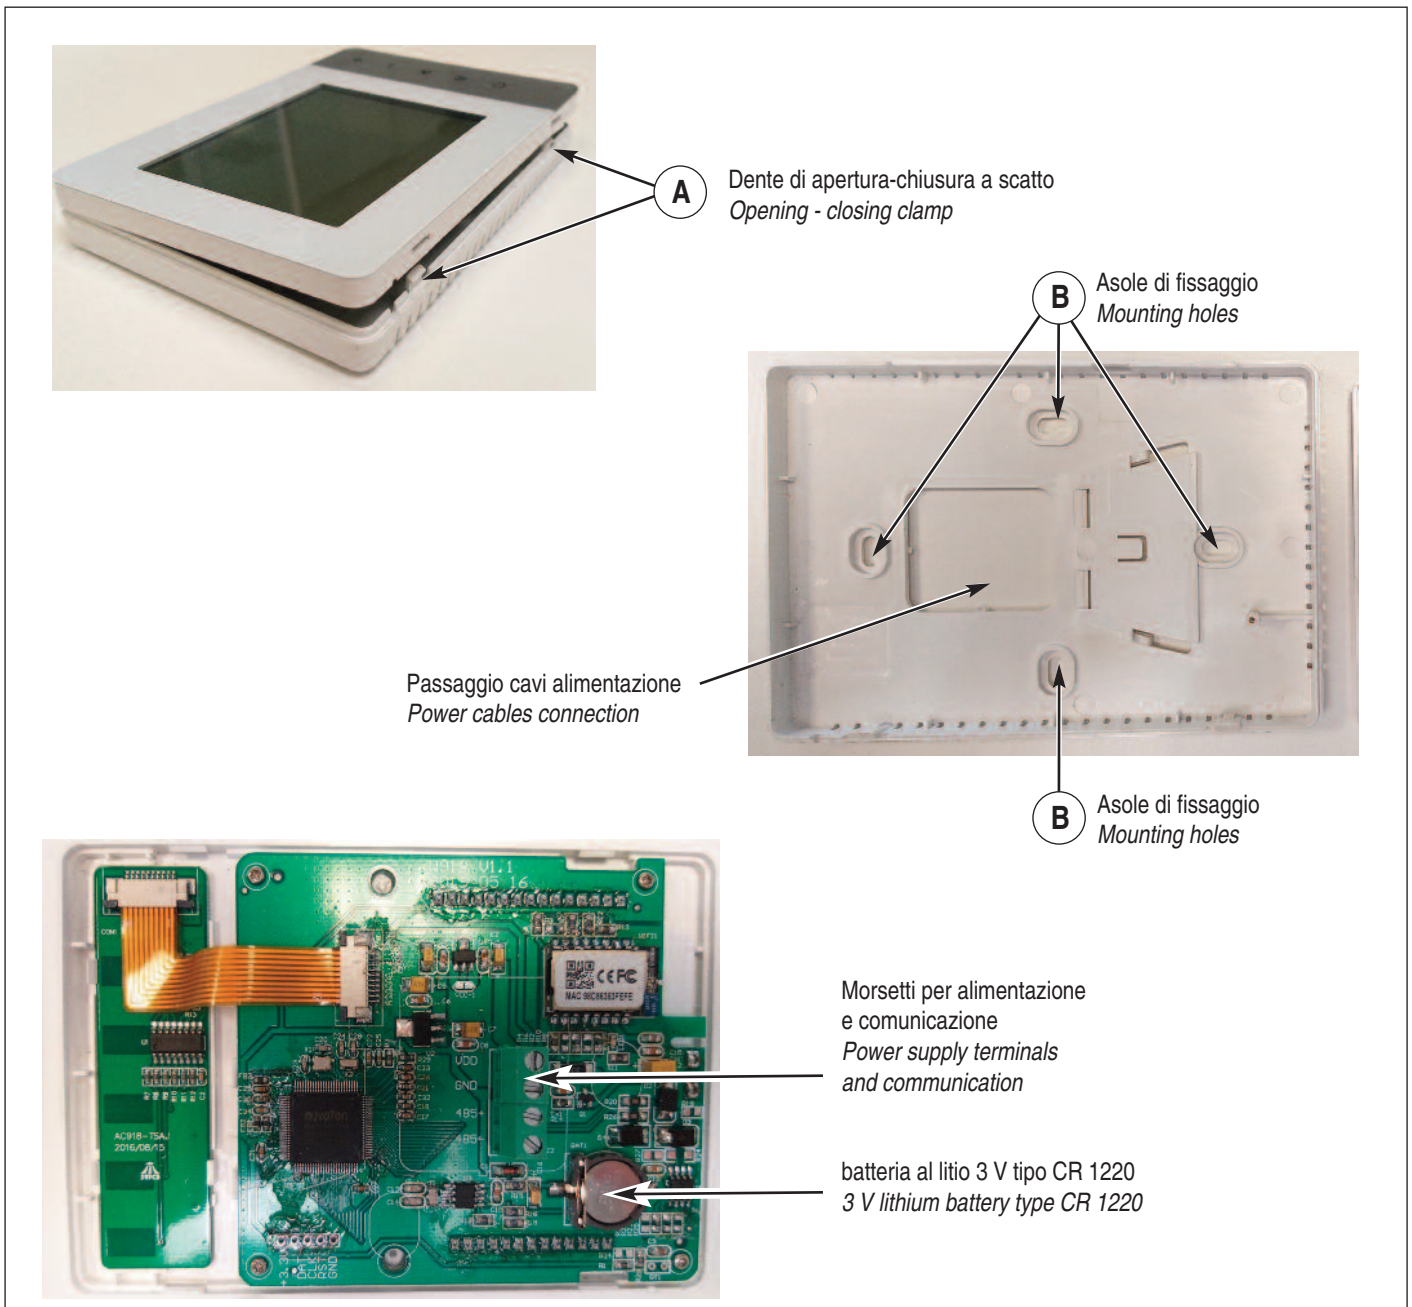

fig. 10
Per fissare il display alla scatola elettrica a parete (fig. 10):
- To fix the display to the wall electrical box (fig. 10):
- Release the front plate of the control, pushing gently on the clamps placed at the lower part (A), consequently also release the latches at the top (B).
- Fix the base of the control to the electrical box, to the wall with two screws, respecting the measurements (B).